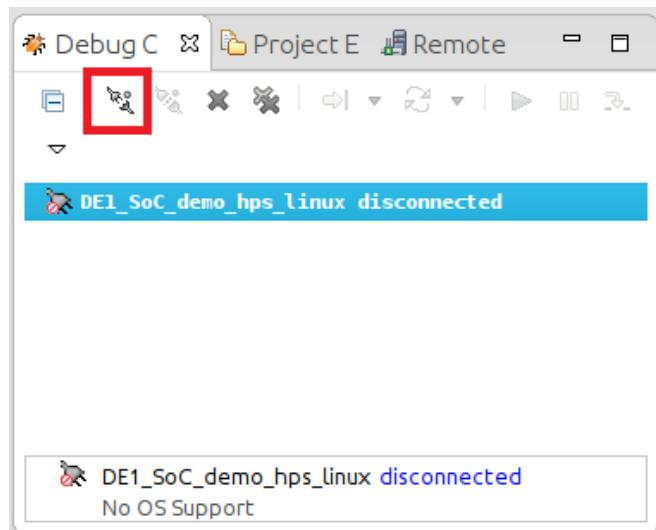

Figure 8-65. Debug Control View
27. In the “Debug Control” view, click on the “DE1_SoC_demo_hps_linux” entry, then click on the “Connect to Target” button, as shown on Figure 8-65. The debugger will start an SSH connection to the Linux distribution running on the DE1-SoC and will automatically transfer our binary file and wait at our application's “main()” function.